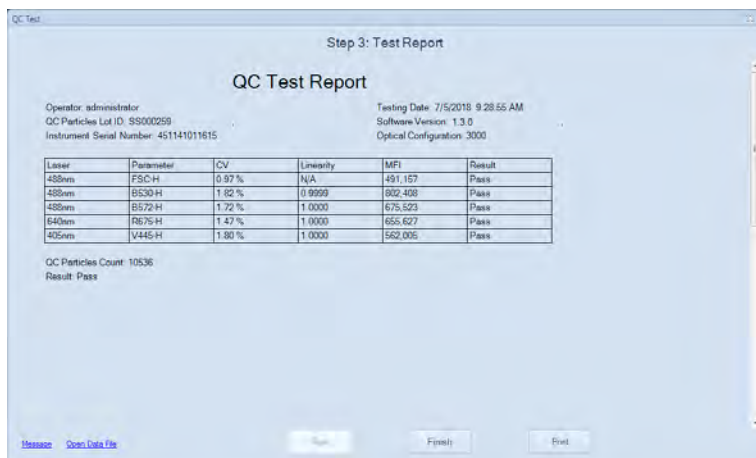

Figure 2-17 QC Test: Step 3 - QC Test Report
- After the QC test is completed, click the *Report* button to view the test results. Figure 2-17 shows one example of the QC test results.
The parameters shown in the QC reports depend on the configuration of the NovoCyte instrument and may appear to be different from the example shown in Figure 2-17.